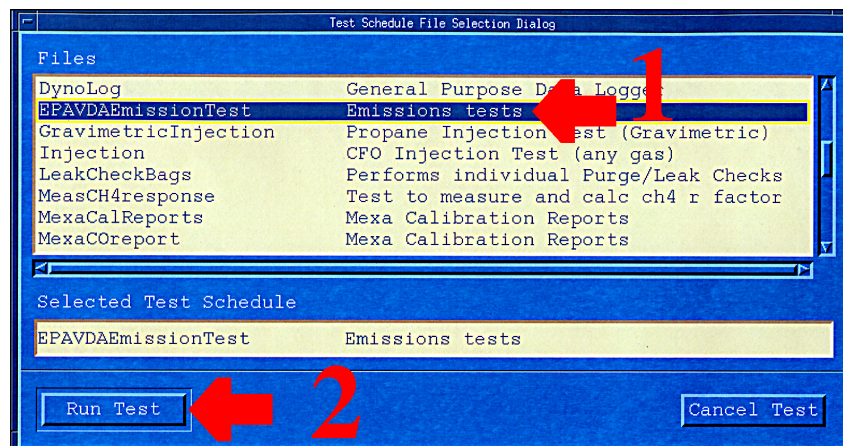

Figure 7
- 7.9.1 On the "Test Schedule File Selection Dialog" screen, in the "Files" section select "EPAVDAEmission Test" (arrow 1 in Figure 7)
Click on the "Run Test" button (arrow 2 in Figure 7).